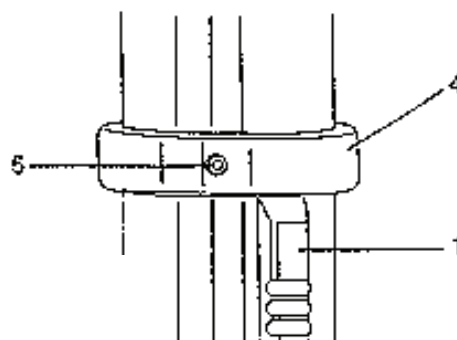
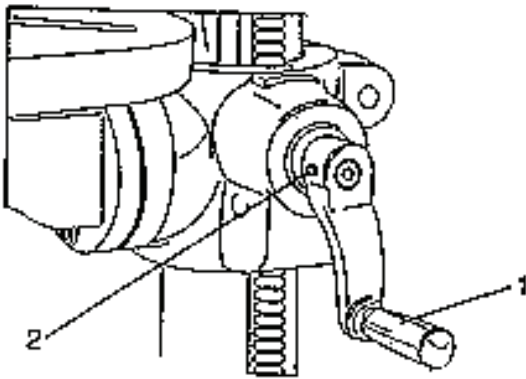

Fig. 6
Fig. 7
6. Hold the fastening arm and the rack against the column (Fig. 6) and slide the rack ring (4) on the column.
7. The rack (1) will just fit in the ring (4). Make sure that there is sufficient clearance between the rack and the ring so that the bench may rotate around the column. .
8. Tighten the set screw (5). to fix the ring position.
9. Fit the handgrip (1) in place and tighten the setscrew (2). (Fig. 7)